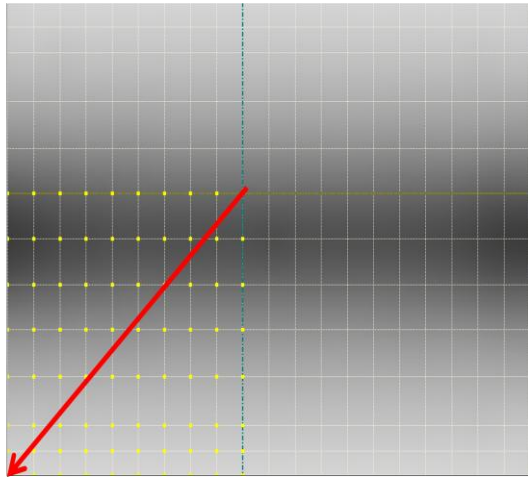

Fig2 : select points
1. Press and hold left mouse button, drag from the upper right to lower left (fig 2).